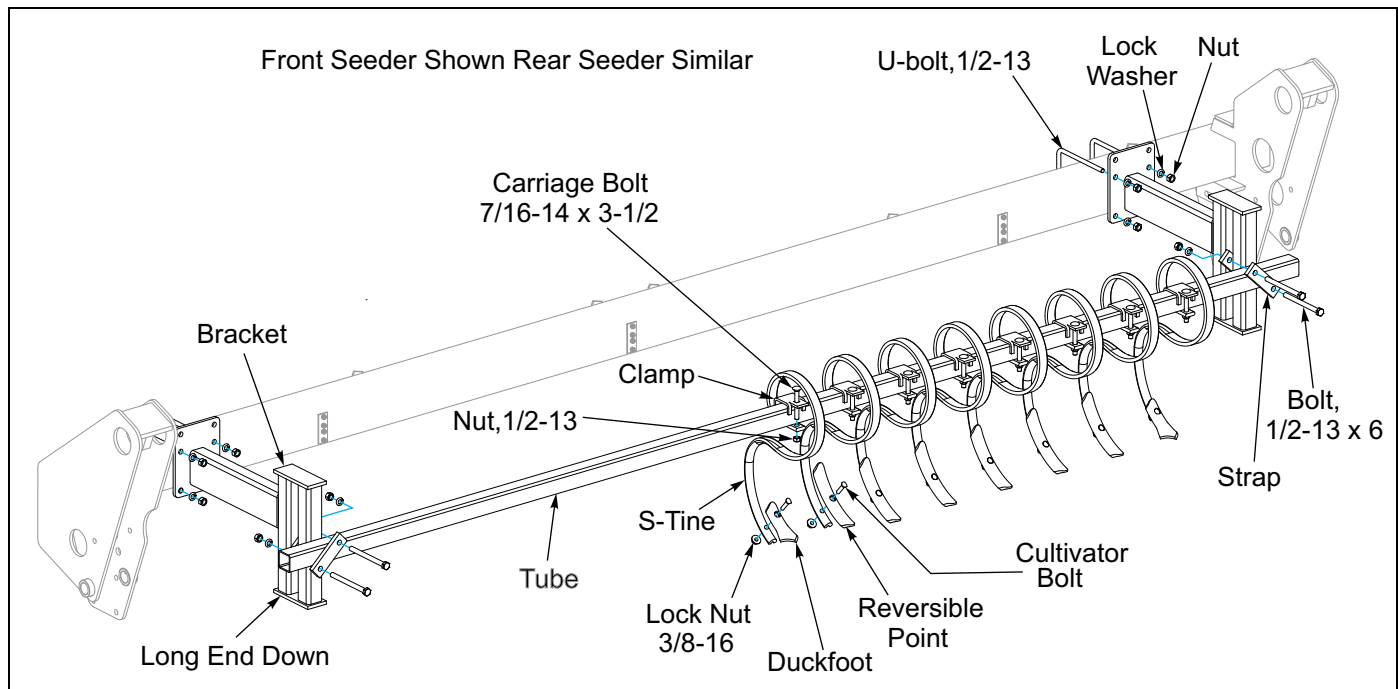

Figure 2-14: S-Tine
1. Attach brackets to the frame with U-bolts (1/2-13 x 4-1/2" centers x 7-1/2" deep), lock washers, and nuts. Note that the long ends of the brackets are downward. The bracket on the Transmission side should be about 13-1/8" from the frame inner plate and on the opposite side 10-1/4" from the frame inner plate. See Figures 2-14, 2-15.
2. Attach the tube to brackets using straps and bolts (1/2-13" x 6"), lock washers, and nuts. At this time ensure the hydraulic hoses are positioned over the top of the Brackets. See Figures 2-14, 2-15.
3. Locate and install the S-tines to cover the tractor tire tracks. The first tine on the front is 15-3/8" and the first tine on the rear seeder is 18-3/8" from the end of the long tube. The rest of the tines are positioned 7-1/2 inches apart consecutively inwards towards the center of the hitch or tractor. See Figures 2-14, 2-15.